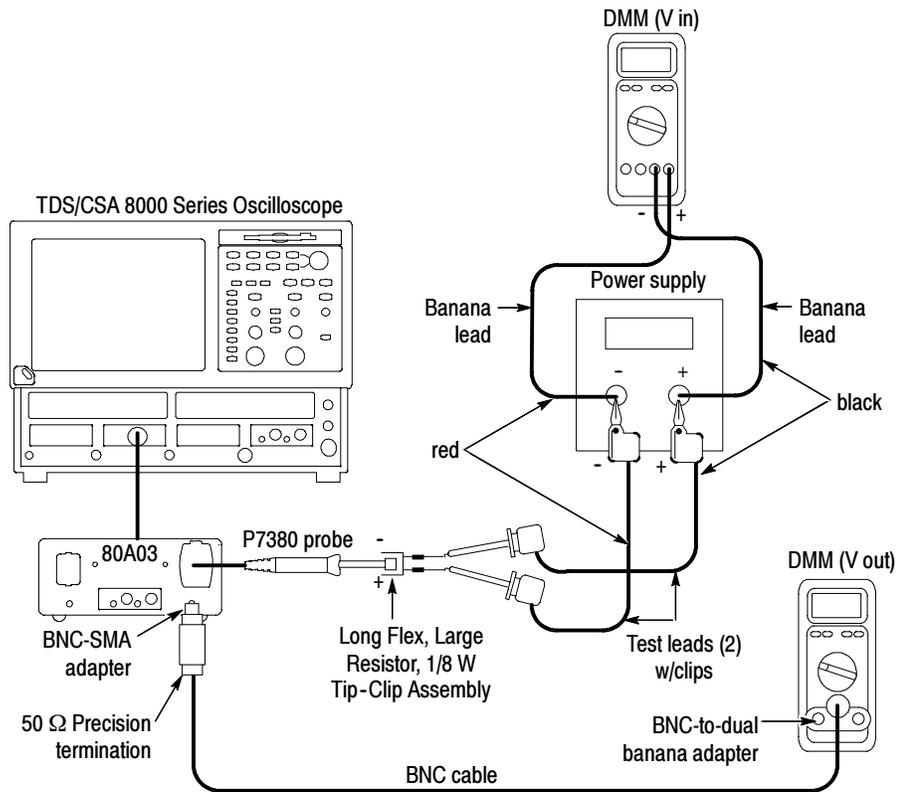

Figure 13: Reverse the power supply polarity on the probe inputs
6. Reverse the polarity of the voltage applied to the probe inputs by swapping both sets of banana leads at the power supply, as shown in Figure 13.